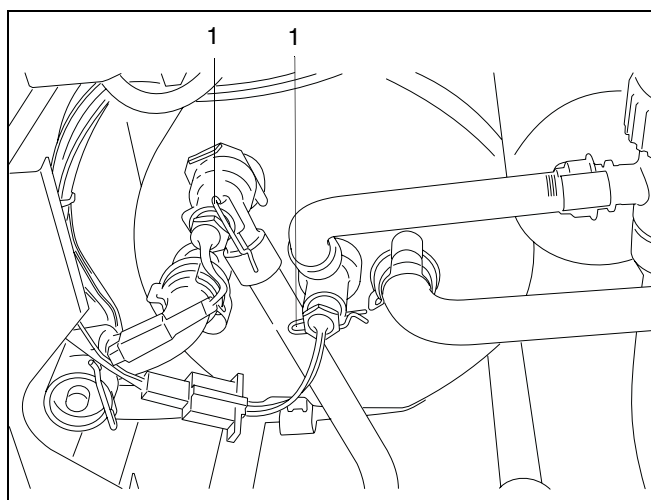

fig. 55 Remove safety clips of sensors DHW cold and hot
- Pull out the safety clips (fig. 55, item 1).